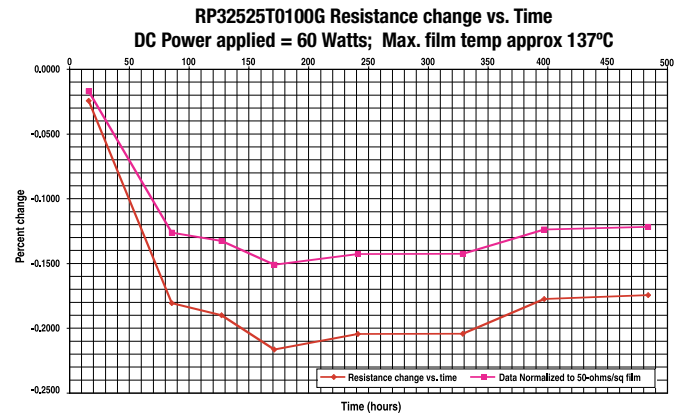

Figure 7: Percent resistance change of TaN resistors with applied DC power
What now of aging effects due to the application of a DC voltage? **Figure 7** shows the average measured change in resistance of three 100-ohm, 60-Watt resistors selected at random from a production run and DC power-aged – this time exactly in accordance with MIL-PRF-55342 – for 490 hours. The top curve shows the raw data; maximum resistance change was about -0.22%. The lower curve shows the data normalized to a 50-ohms/square resistivity, i.e., the resistance change was scaled by the ratio of actual film resistivity, 72 ohms/square, to 50 ohms/square using equation (1). The meaning of the scaling here is ambiguous, since resistance change is now seen to occur as a result of two separate effects: Heating – to which resistivity scaling applies by virtue of (1) – and a DC voltage sensitivity resulting from unknown causes. The latter phenomenon is common in thick films and is believed to result from an agglomeration of small conductive particles, under the application of a DC potential, into lower resistance larger particles. However, a corresponding thin-film mechanism does not seem to be reported in the available literature. Nevertheless, KYOCERA AVX has observed it experimentally on substrates from a number of different vendors and having a variety of surface roughnesses. The salient feature is that this effect causes resistance to decrease with time, whereas thermal effects cause it to increase. We can infer from Fig. 7 that the DC aging effect dominates for the first 170 hours, after which the thermal effect becomes significant. The fact that the two phenomena yield resistance departures in opposite directions helps to generate good results on the Mil spec test – although it must be cautioned that AC-only use could produce greater changes. Absent specific knowledge of customer use, KYOCERA AVX performs its standard aging test with DC applied per the Mil spec.